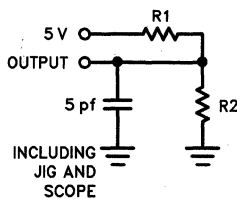

Figure 1b
3. Output Loading as in Figure 1b.